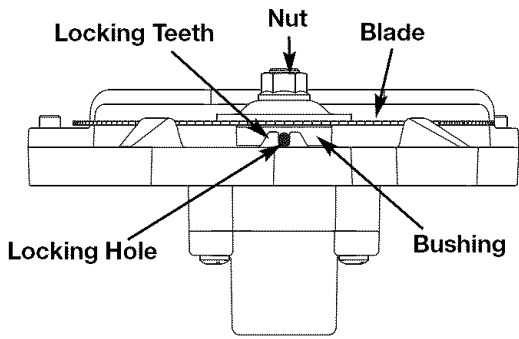

Fig. 10
3. Turn the unit so that you are looking at the end of it (Fig. 10).
4. Rotate the nut until one of the locking holes on the bushing beneath the blade aligns between the locking teeth (Fig. 10).
3. Insert the long end of the provided Allen wrench between the Locking Teeth and into the Locking Hole in the bushing (Fig. 10).